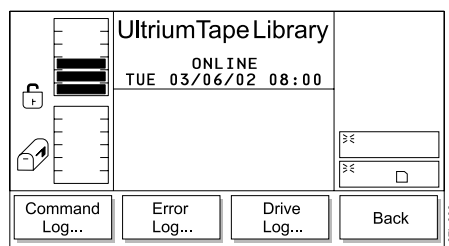

Figure 117. Logs Submenu
2. Press the button below the **Logs** softkey. The Logs Submenu displays (see Figure 117).